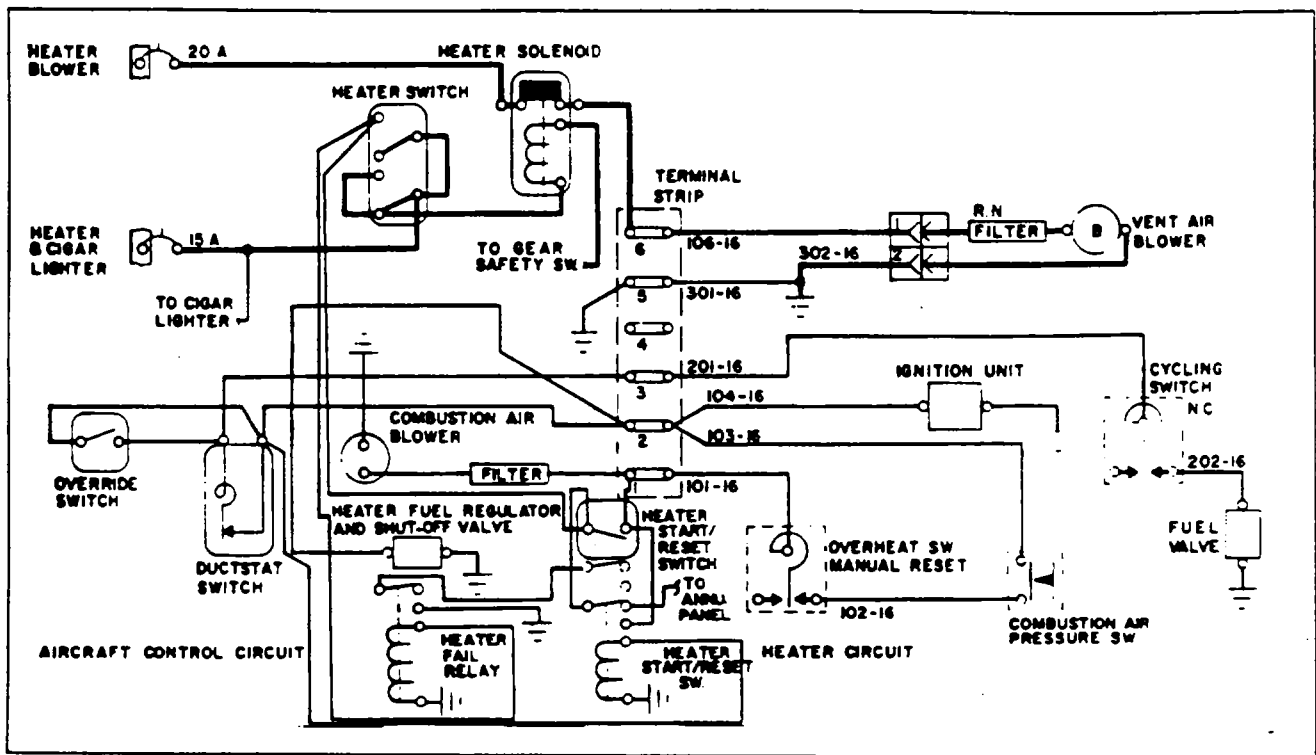

Figure 21-6. Vent Blower Power Circuit
1. With the HEATER SWITCH in the FAN position, electrical continuity (28 volts nominal) should be present at the following locations. (Refer to Figure 21-6.)